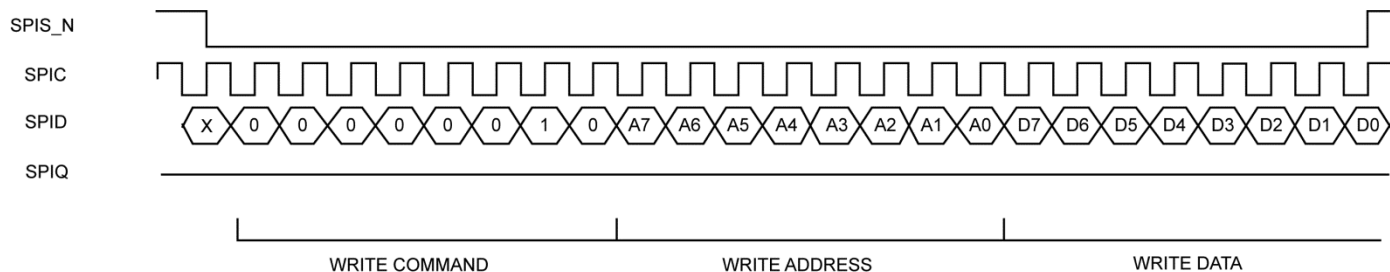
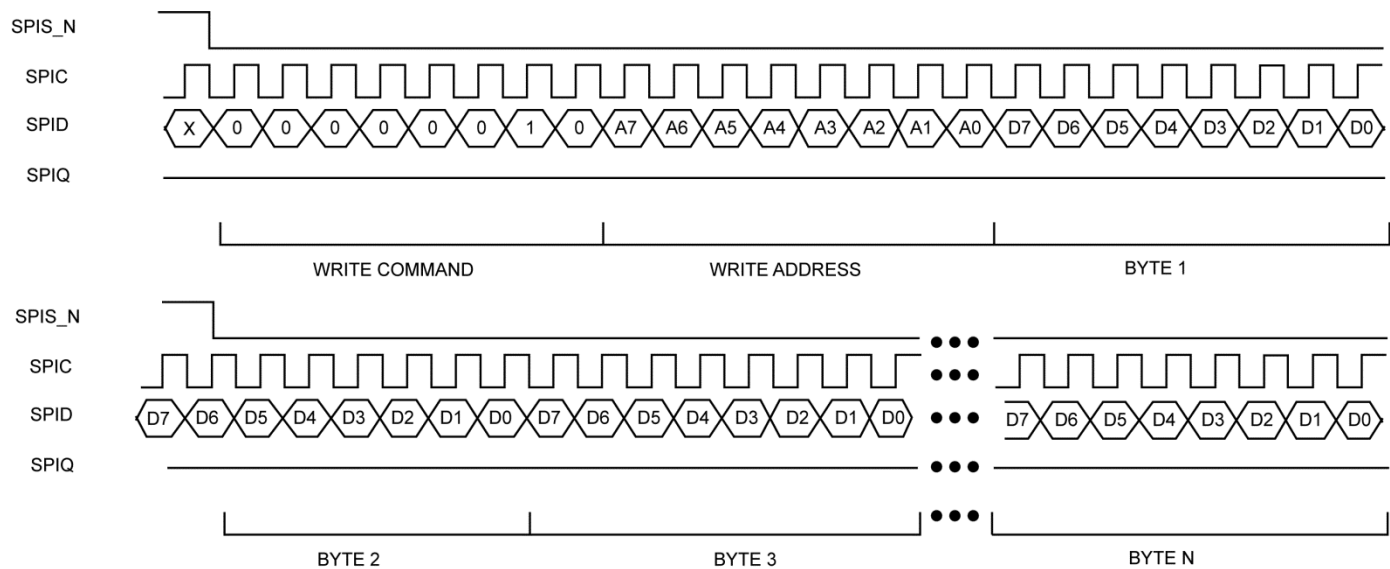

Figure 15. SPI Write Data Cycle
Figure 17. SPI Multiple Write
4. Write configuration to registers using a typical SPI write data cycle as shown in Figure 15 or SPI multiple write as shown in Figure 17. Note that data input on SPID is registered on the rising edge of SPIC.